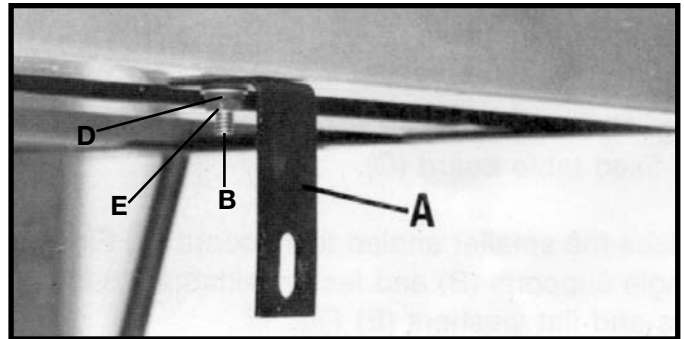

Fig. 12
1. Assemble bracket (A) to the bottom of the right side of saw base, as shown in Fig. 12, using the 1/4-20x1/2" hex head screw (B), 1/4" lockwasher (D), and 1/4-20 nut (E).